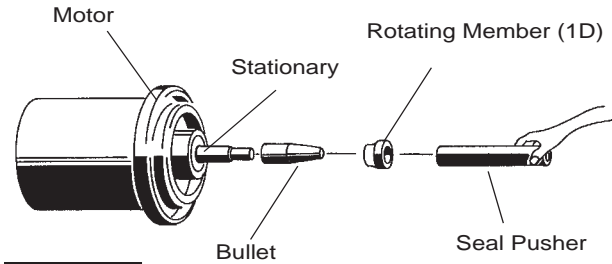

FIGURE 5
Slide retaining ring (1d) over shaft and let rest on bearing (21). Place spring (1c) over shaft and let rest on retaining ring (1d). Lightly oil (**DO NOT use grease**) shaft, bullet and inner surface of bellows on rotating member (1b), (see Figure 5), with lapped surface of rotating member (1b) facing outward, slide over bullet and onto shaft using seal pusher, making sure spring (1c) is seated in retaining ring (1d) and spring (1c) is lined up on rotating member (1b) and not cocked or resting on bellows tail.